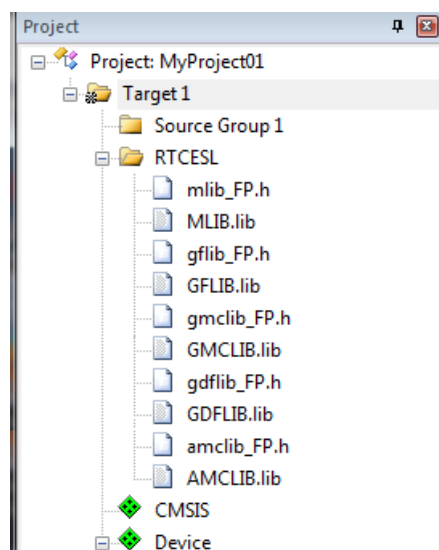

Figure 1-23. Project workspace
14. Now, all necessary files are in the project tree; see Figure 1-23. Click Close.